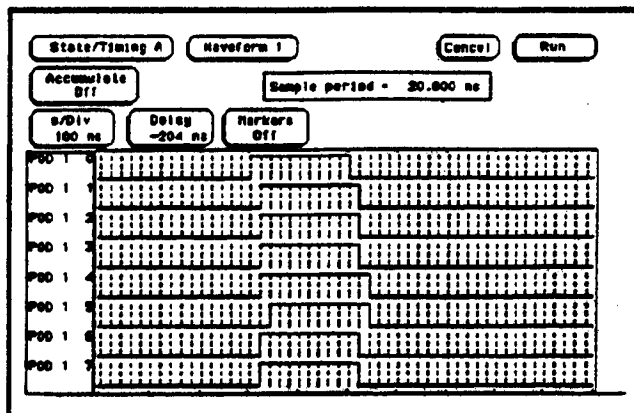

Figure 3-38. Listing Screen
6. Touch Run, then drag finger to Single. The timing analyzer will acquire data and show glitches for channels under test as shown in figure 3-38. Select the Delay field and spin knob to ensure consistent glitch detection.